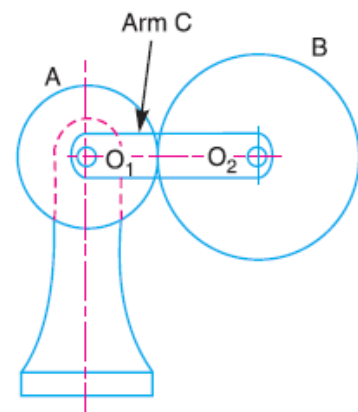

Fig.1. Epicyclic gear train.
A simple epicyclic gear train is shown in Fig.1, where a gear A and the arm C have a common axis at O_1 about which they can rotate. The gear B meshes with gear A and has its axis on the arm at O_2 , about which the gear B can rotate. If the arm is fixed, the gear train is simple and gear A can drive gear B or *vice-versa*, but if gear A is fixed and the arm is rotated about the axis of gear A (*i.e.* O_1), then the gear B is forced to rotate *upon* and *around* gear A. Such a motion is called **epicyclic** and the gear trains arranged in such a manner that one or more of their members move upon and around another member are known as **epicyclic gear trains** (*epi.* means upon and *cyclic* means around). The epicyclic gear trains may be *simple* or *compound*.
1. **Tabular method.** Consider an epicyclic gear train as shown in Fig. 1.